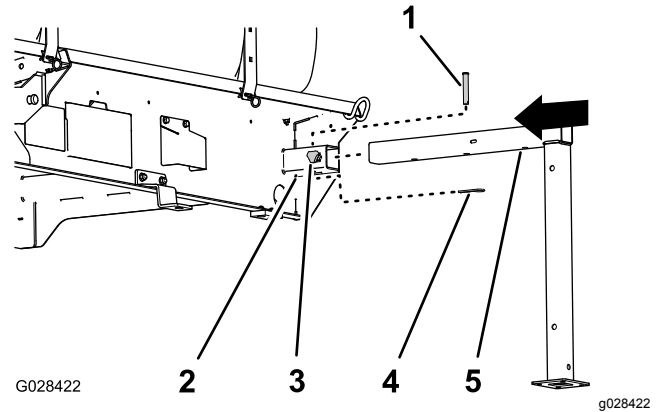

Figure 118
1. Align the front jackstand with the jackstand receiver at the front of the tank (Figure 118).
2. Insert the jackstand into the receiver until the middle hole in the horizontal jackstand tube is aligned with the hole in the top of the receiver (Figure 118).
4. Thread a lock knob into the receiver tighten the knob by hand (Figure 118).